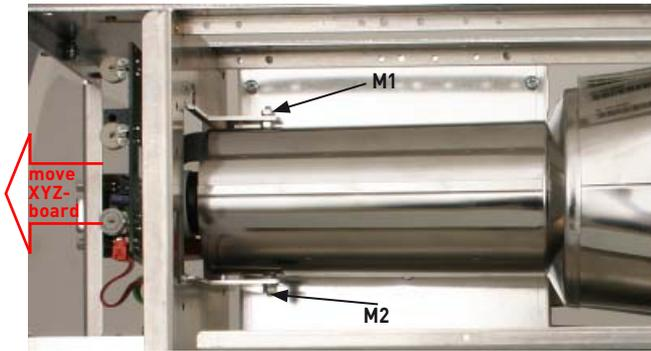

Figure 5-12: View of the CRT module
First remove the CPU board (see paragraph 5.5.1), then remove the XYZ module (see paragraph 5.2.1). Remove the hex nuts M1 and M2 from the CRT bracket as shown in Fig. 5-12. Use the jaw wrench size 5.5 mm, tool A9.
- Fix the hex nuts M1 and M2 as shown in Fig. 5-12. Use the jaw wrench size 5.5 mm, tool A9, install the CPU board (see paragraph 5-5-2).